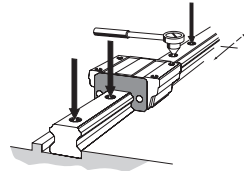

Fig.6 Fully Fastening the Mounting Bolts
- (4) Tighten the mounting bolts at the designated torque using a torque wrench. (See Fig.6, and Table1 and Table2 on A-350.)